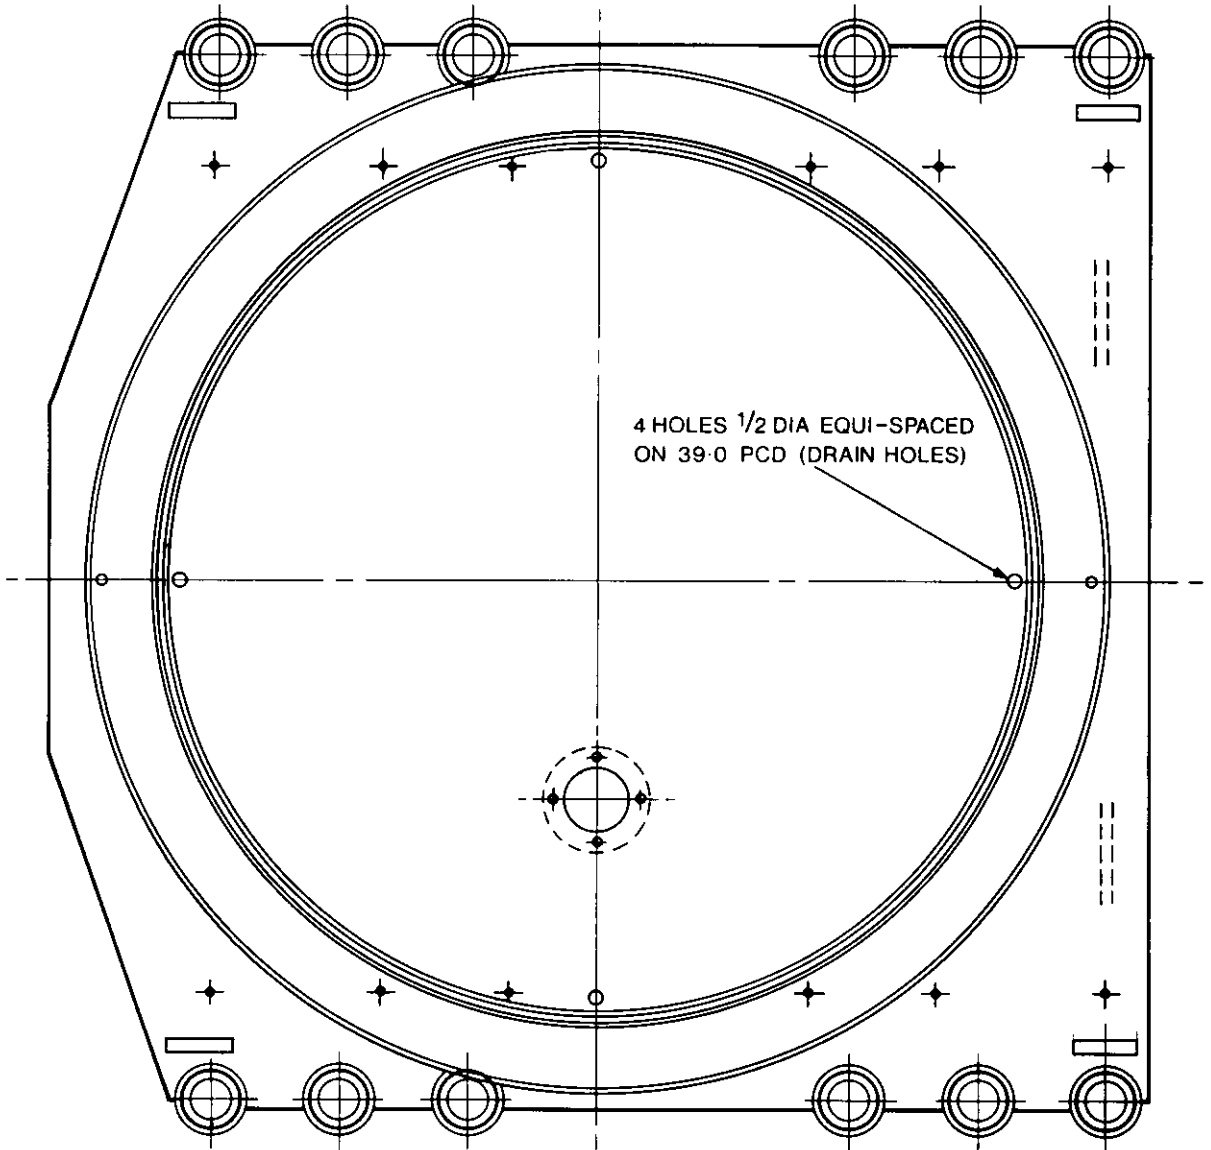

Fig 1 - Base and platform drain hole detail
4. a. Drill four holes 1/2 in. dia in the mortar mount base plate platform at dimensions shown in Fig 1.